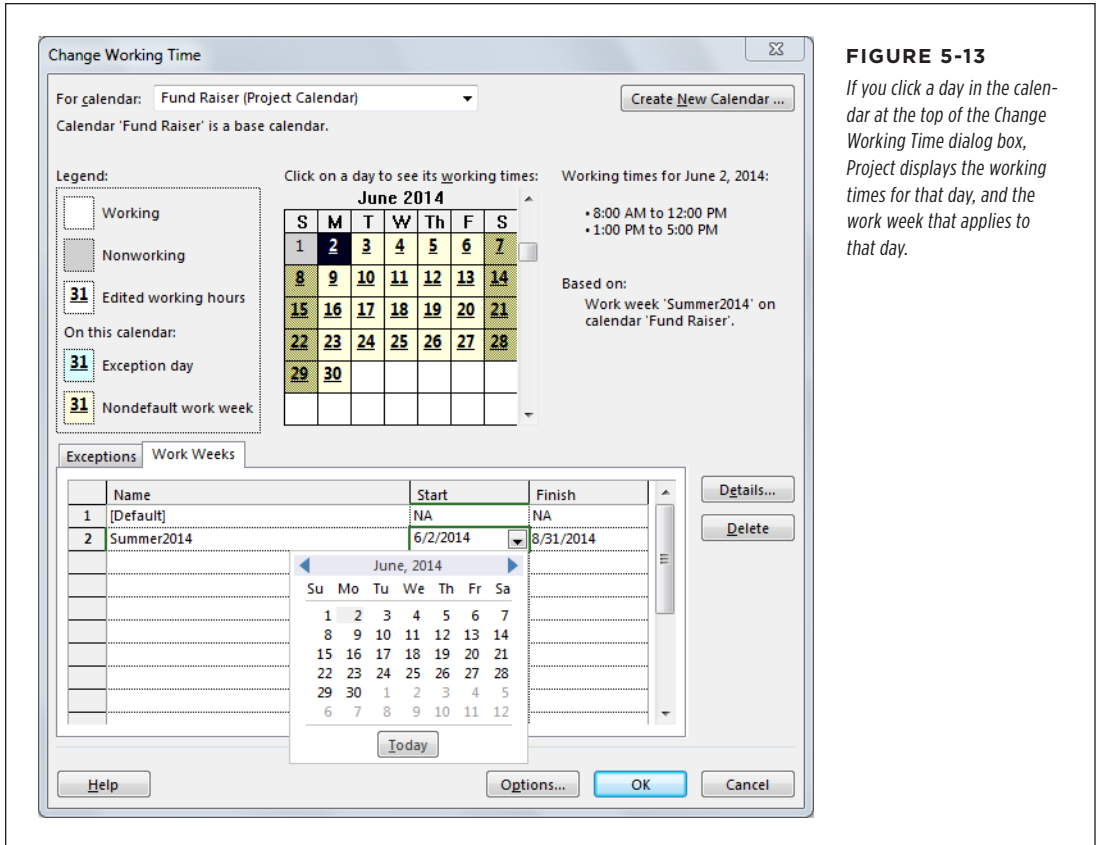

FIGURE 5-13
- 3. Click the Start cell in the same row, click the down arrow that appears in the cell, and then choose the first date to which the work week applies, as shown in Figure 5-13. Click the Finish cell in the same row, and then choose the last date to which the work week applies.**
When you set up additional work weeks with alternate work schedules, the calendar in the top half of the Change Working Time dialog box underlines the dates with non-standard workdays, as you can see for June 2014 in Figure 5-13.